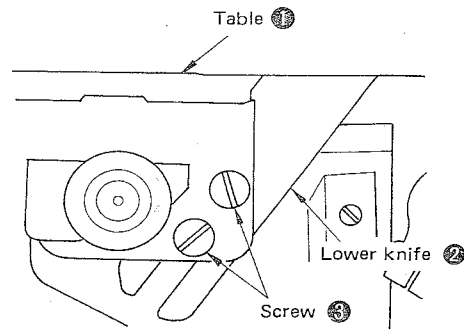

Fig. IV-4-2
The lower knife should be in its standard position where the blade of lower knife ② is almost flush with top surface ① of the table. Tighten two screws ③ so that the lower knife is fixed tightly in place. (See Fig. IV-4-2)